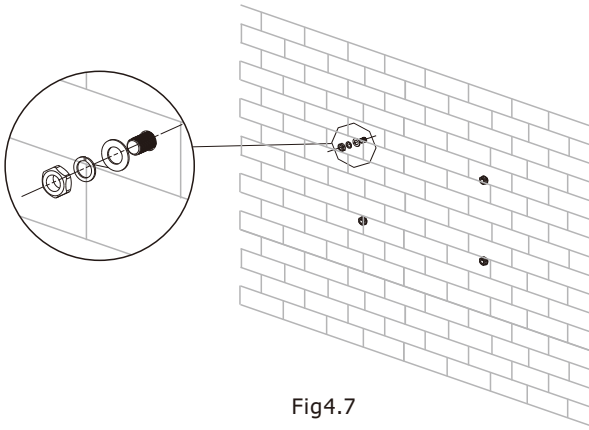

Fig4.7
- ▶ Fix the mounting expansion bolt on the wall as the figures shown below. combine four expansion bolt with four M6 Nuts. Refer to Fig4.7